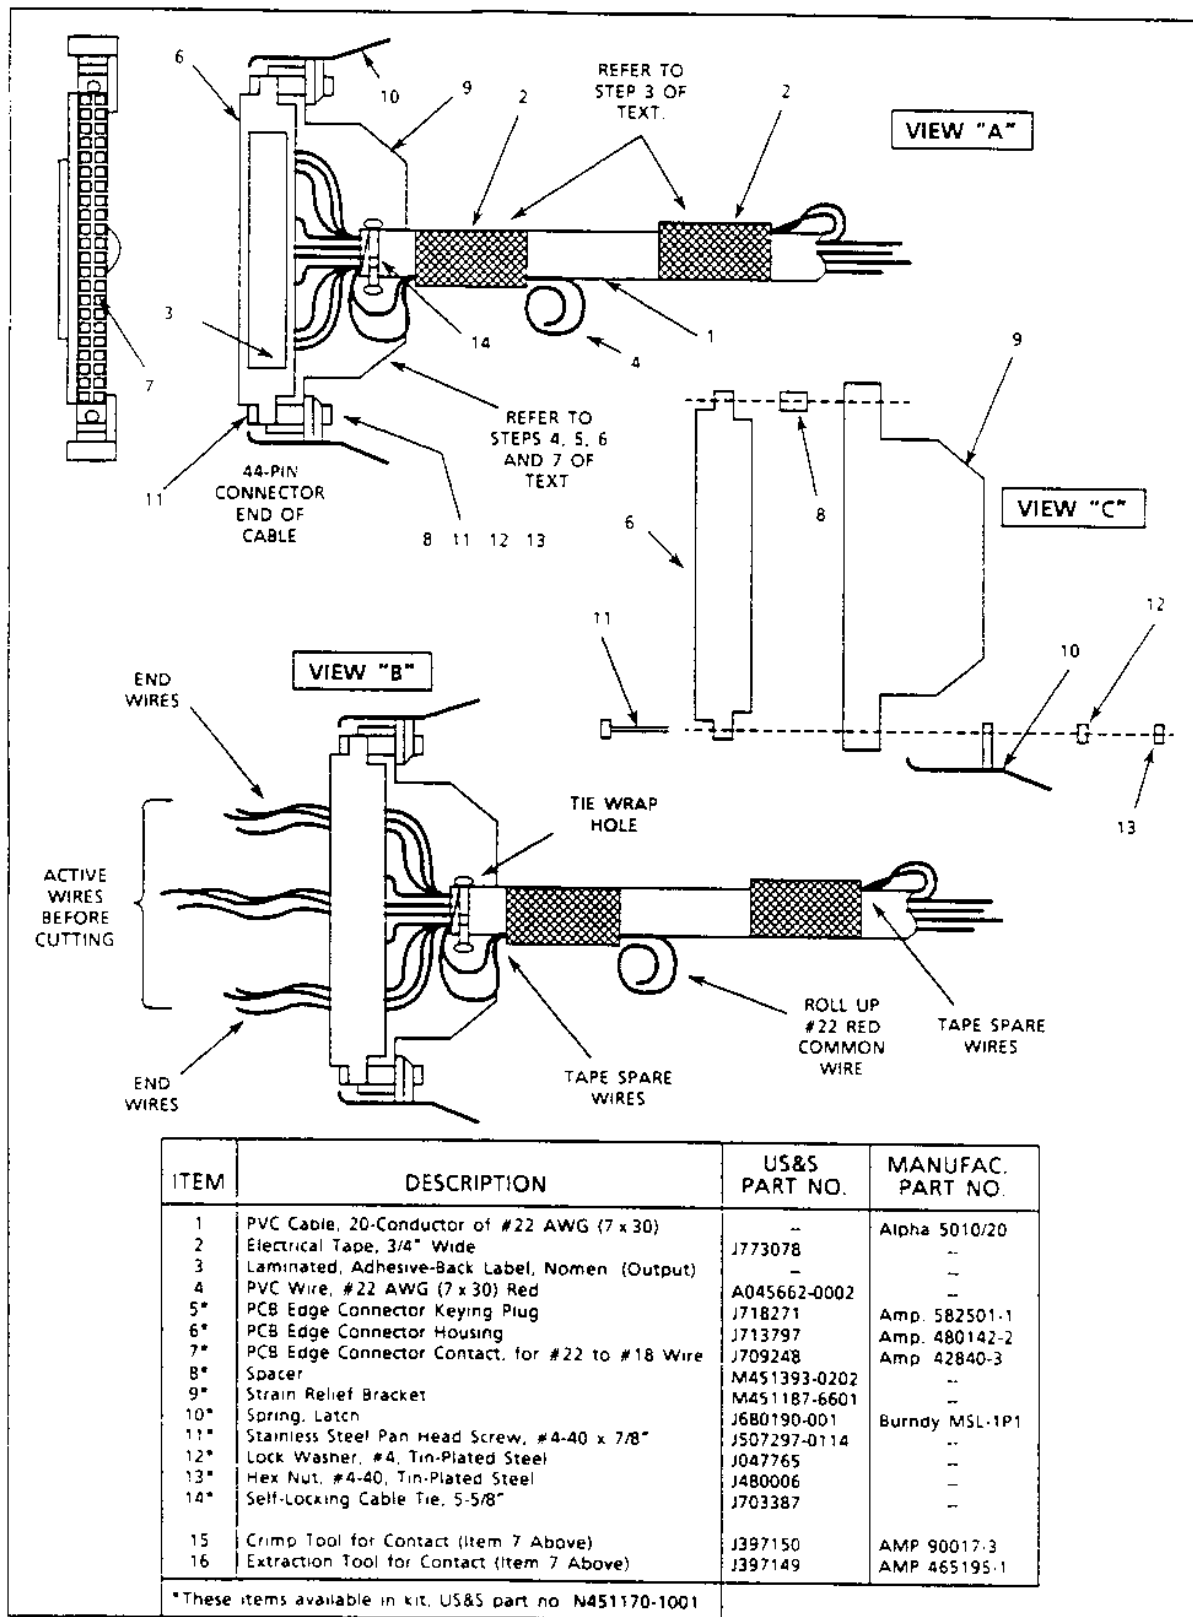

Figure 3-5. Typical 32-Bit I/O Connector/Cable Mechanical Assembly
B. Typical Construction Procedure (Ref. Figure 3-5)